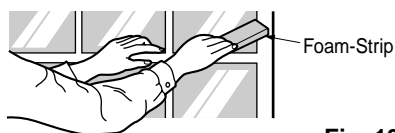

Fig. 19
- 8 Cut the Foam-strip to the proper length and insert between the upper window sash and the lower window sash. (See Fig. 19)